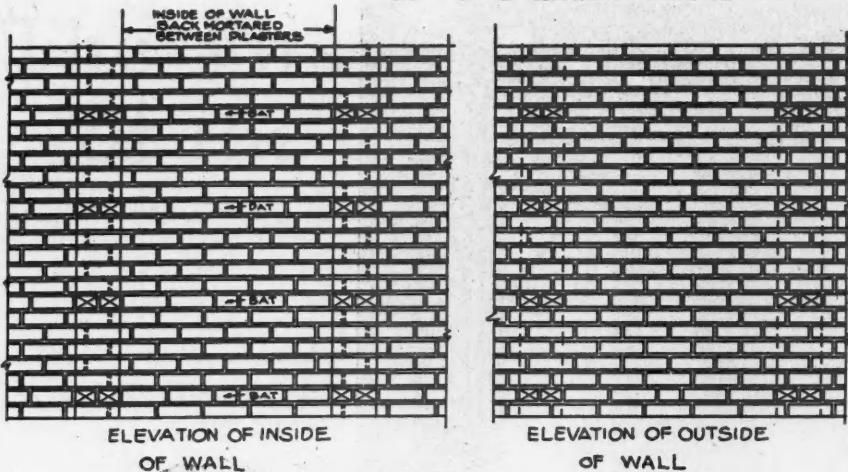

Fig. 3. Outside and Inside Elevation Showing Bonding. Headers may be at every sixth or seventh course, according to local code.
15. The bonding course consists of two headers laid side by side upon each pilaster with a special detail at the corner. This is the only course in which it should be necessary to cut any brick and no more cutting is required than would be the case in any solid brick wall laid in common bond. Inasmuch as the spaces between the pilasters equal 4½ stretchers, it is obvious that 4 stretchers and a bat must be placed between each pair of pilasters except in the panels next to the corners in which 4 stretchers and a closer will be necessary. (Fig. 2.) The bat and the closer will make a very much better appearing wall if they are located in the center of the panels between the pilasters as shown in Fig. 3. (Continued in June issue)
Where walls or partitions rest upon girders or floors, it is most important to expect shrinkage or deflection to show, unless plaster is reinforced with steel lath. Where such walls butt into masonry walls further cracking can be avoided by reinforcing the inside corners of walls and ceilings with a 12-inch strip of metal lath as shown in Fig. 3. While we cannot depend entirely upon the lath to hold up the building there, it is sensible to believe that steel lathing will reinforce the building to a far greater extent than ordinary lath. If all cracks are not avoided they at least will be reduced to the minimum.